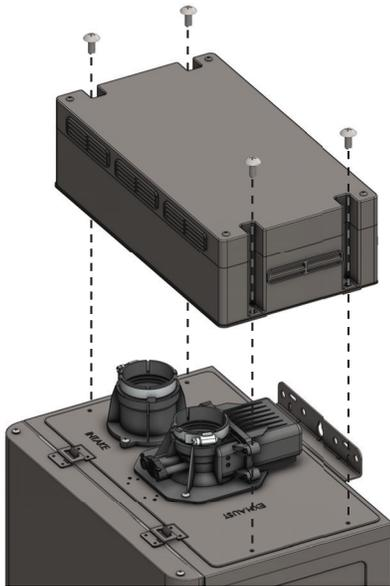

Figure 32 - Orient and Install Vent Cap
- 2 Orient the outdoor vent cap as shown in Figure 32. Secure the outdoor vent cap with the four screws removed in the previous step.